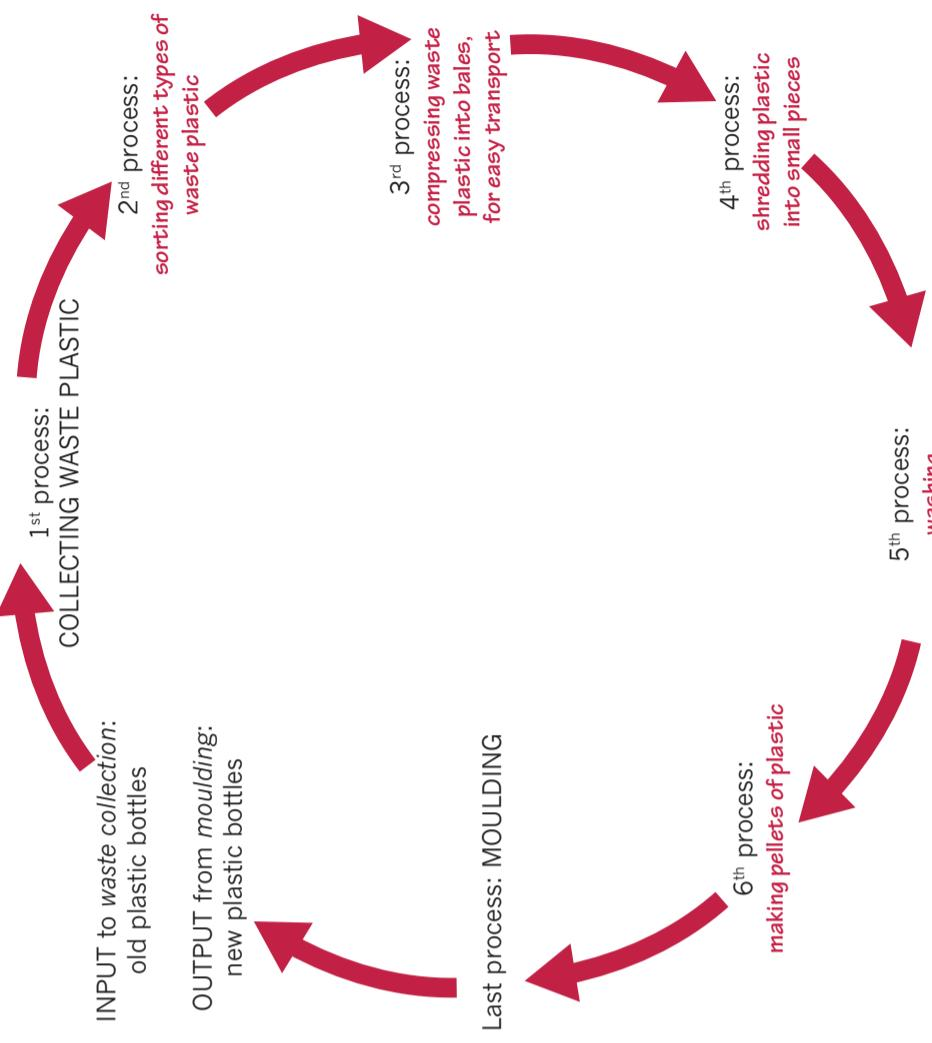

Figure 4: Systems diagram of the plastic bottle recycling process
7. Copy and complete the systems diagram in Figure 4 by giving descriptions of the different steps of the recycling process. Hint: When something is recycled, it means that the output is also the input, since the process is a cycle or circular.